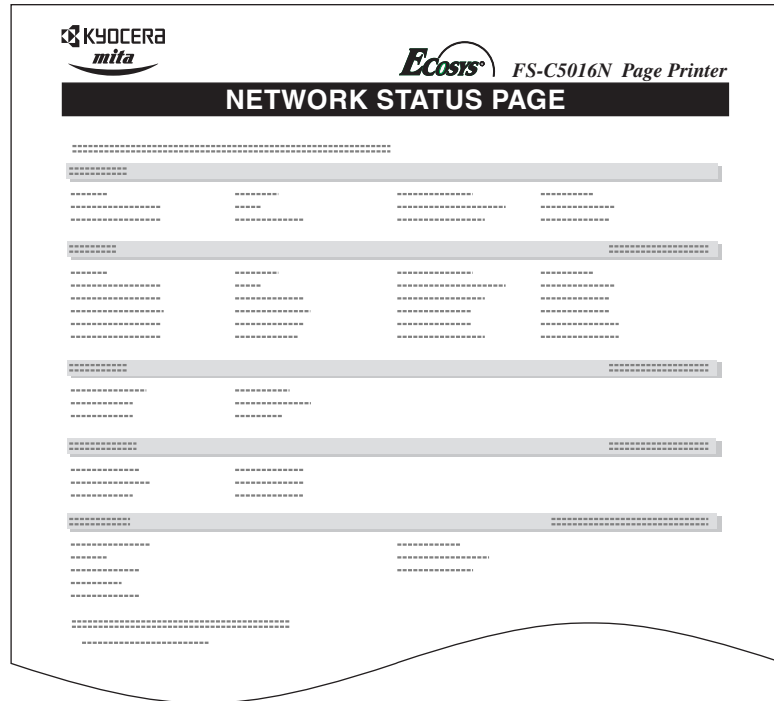

Figure 3-7
A sample network status page is shown on Figure 3-7 on page 3-41.
- 9 Press the **MENU** key. The display returns to Ready. The printer prints a network status page as an example shown in *Figure 3-7* below.